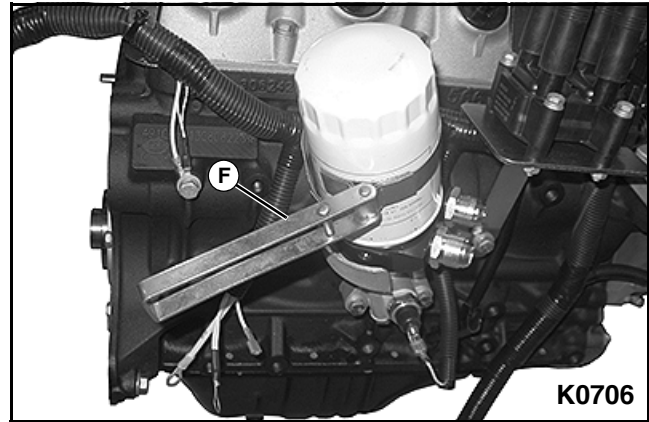

Figure 5-7
7. Lightly screw in the new oil filter by hand until you feel resistance. Using the oil filter wrench (F), tighten the filter an additional 3/4 turn, 25 N•m (18.4 ft.lbs.). **See Figure 5-7.**